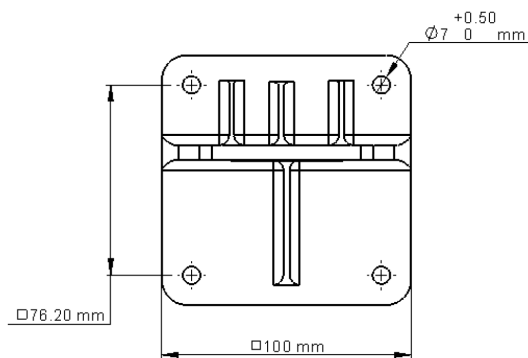

Figure 13 : Tilt Mount Base - Plate View
- Mount the tilt mount base (Figure 13) to a solid structure using four suitable fixings through the four 7mm (0.28") diameter holes. Four captive screws with spring washers are provided in the tilt mount.
Use the following steps to connect the detector to the tilt mount, referring to Figure 13: